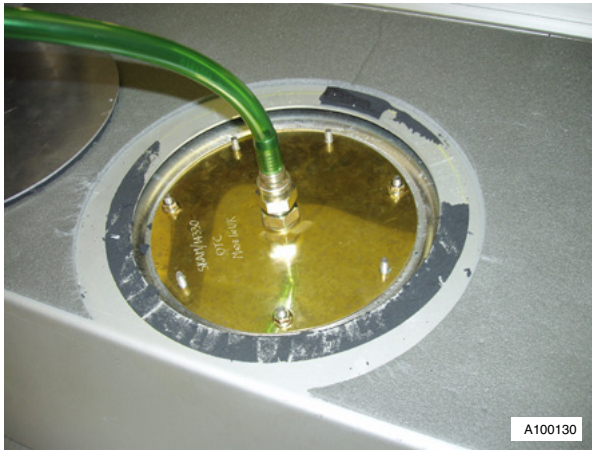

Fig. 1
6. Install the fuel tank drainage adaptor (see Fig. 1).